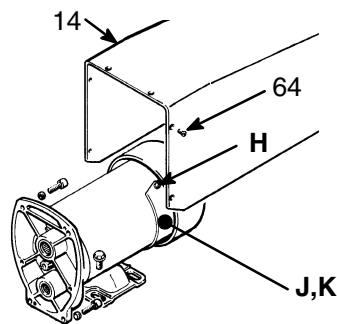

Fig 25-1
1. Remove the motor cover (14) and screws (64). Remove the screws (H), inspection covers (J) and gaskets (K) on each side of the motor. See Fig 25-1.